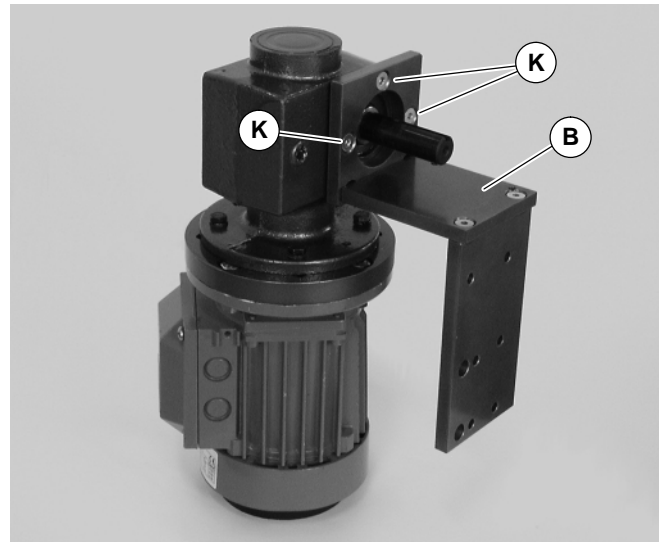

Figure 11
5. Remove three (3) screws (K of Figure 11) and remove mounting bracket (B).
12. Attach mounting bracket (B of Figure 11) to gearmotor with screws (K). Tighten screws to 12 Nm.